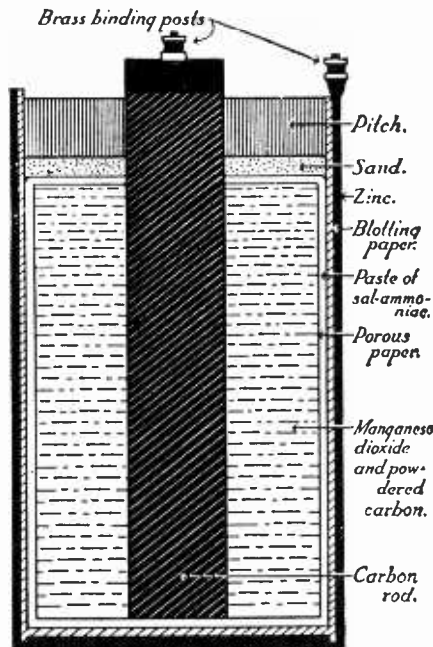

Fig. 12—Cross-Section View Showing Inside of a Dry Cell.
*"Dry cells,"* such as we use to operate radio receivers, work in the same way. There is a carbon and a zinc electrode in each cell. As a matter of fact, a zinc container takes the place of the glass jar. This is shown in Fig. 12. The electrolyte is not now a solution, but rather a paste. It is made in the form of a paste so that it holds the liquid and does not leak. After the cell is put together, the whole thing is sealed at the top with pitch or sealing wax, so that the liquid will not evaporate and allow the paste to dry out.